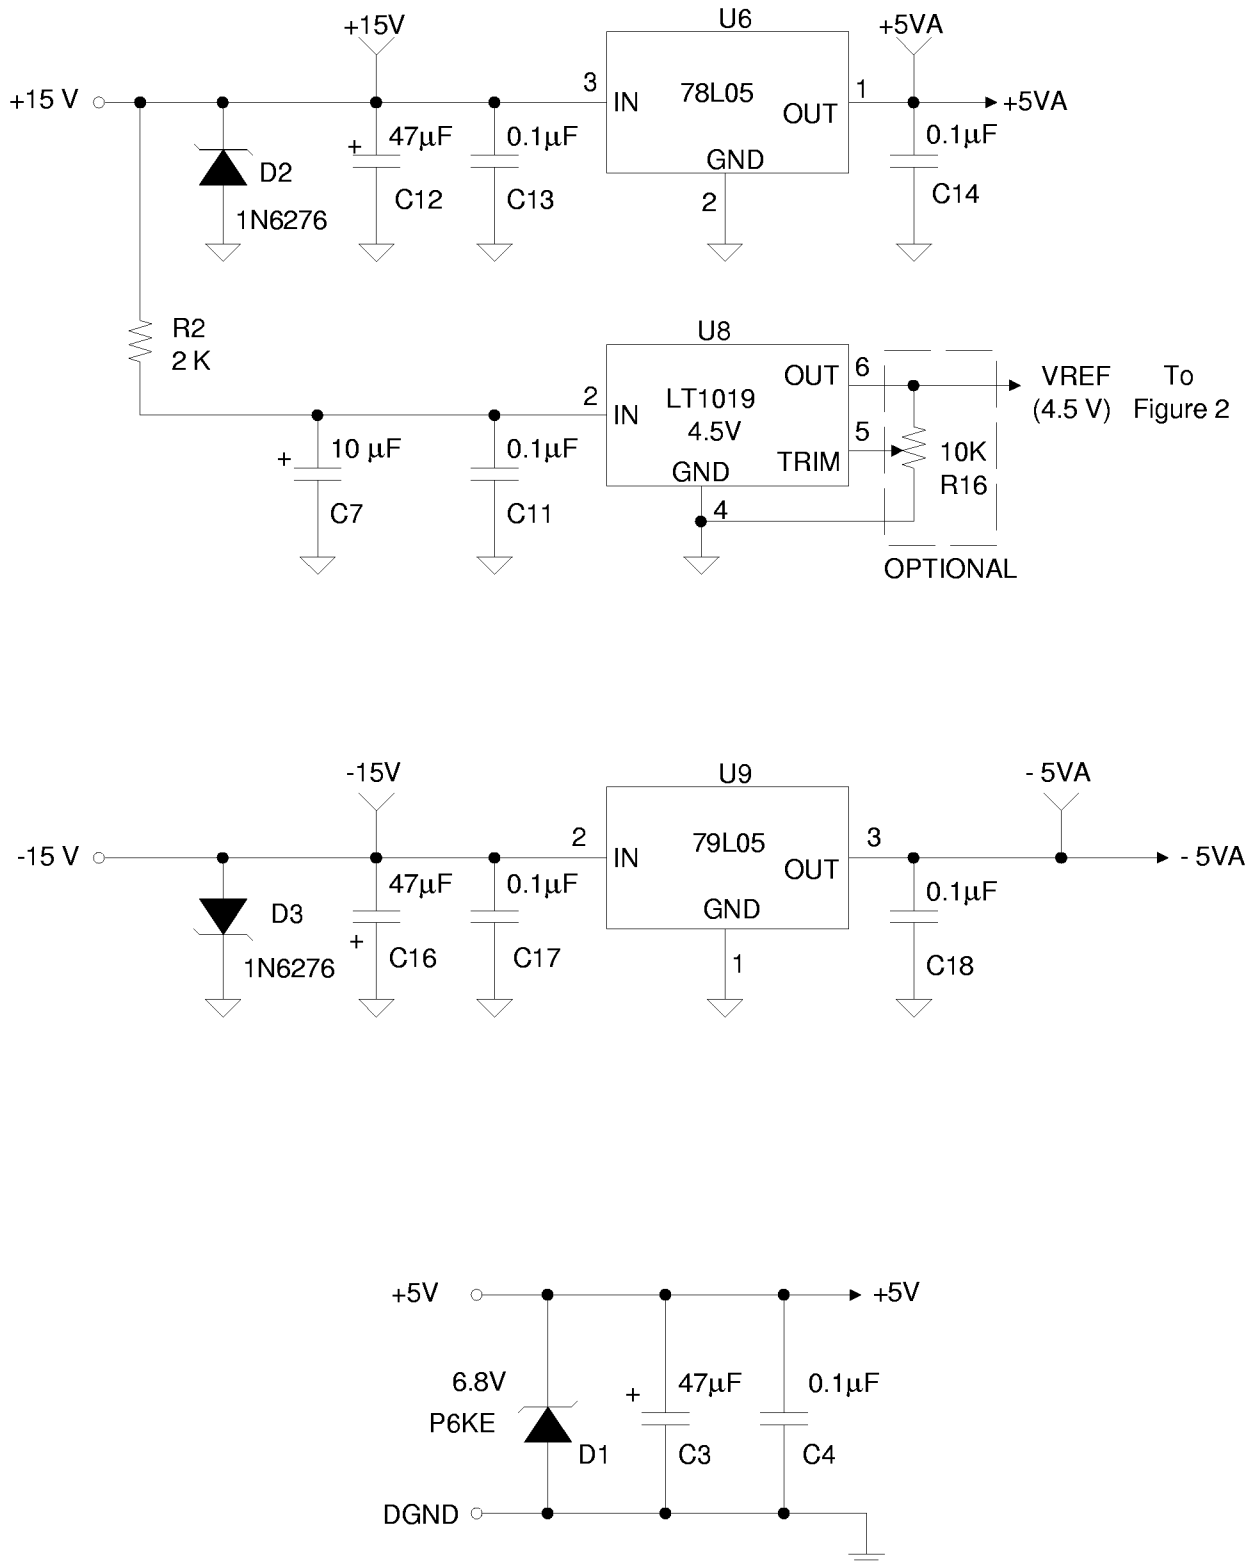

Figure 1. Power Supplies
The CDB5321 evaluation board requires three separate power supplies for proper operation. Figure 1 illustrates the power supply connections. The required power supply input voltages consist of +5V, +15V, and -15V. The CS5322 filter and logic support devices on the board operate from the +5V supply. The +15V and
-15V inputs are regulated down to provide +5V and -5V supplies necessary for the CS5321 modulator. Figure 1 also illustrates the LT1019 4.5V reference used with the CS5321 modulator.